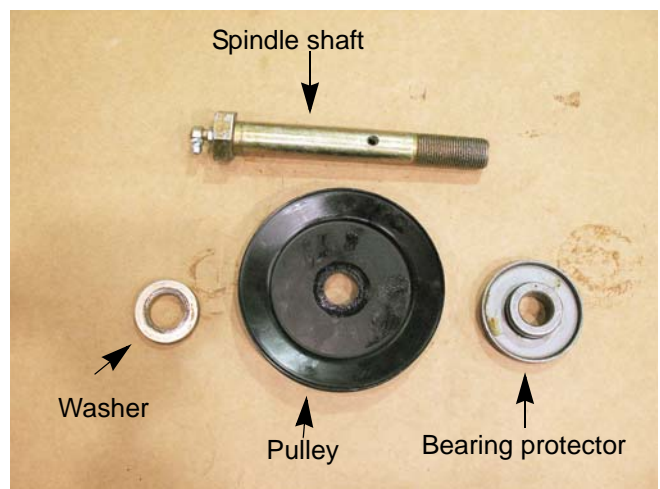

Figure 8.14
5. Remove the pulley. See Figure 8.14.